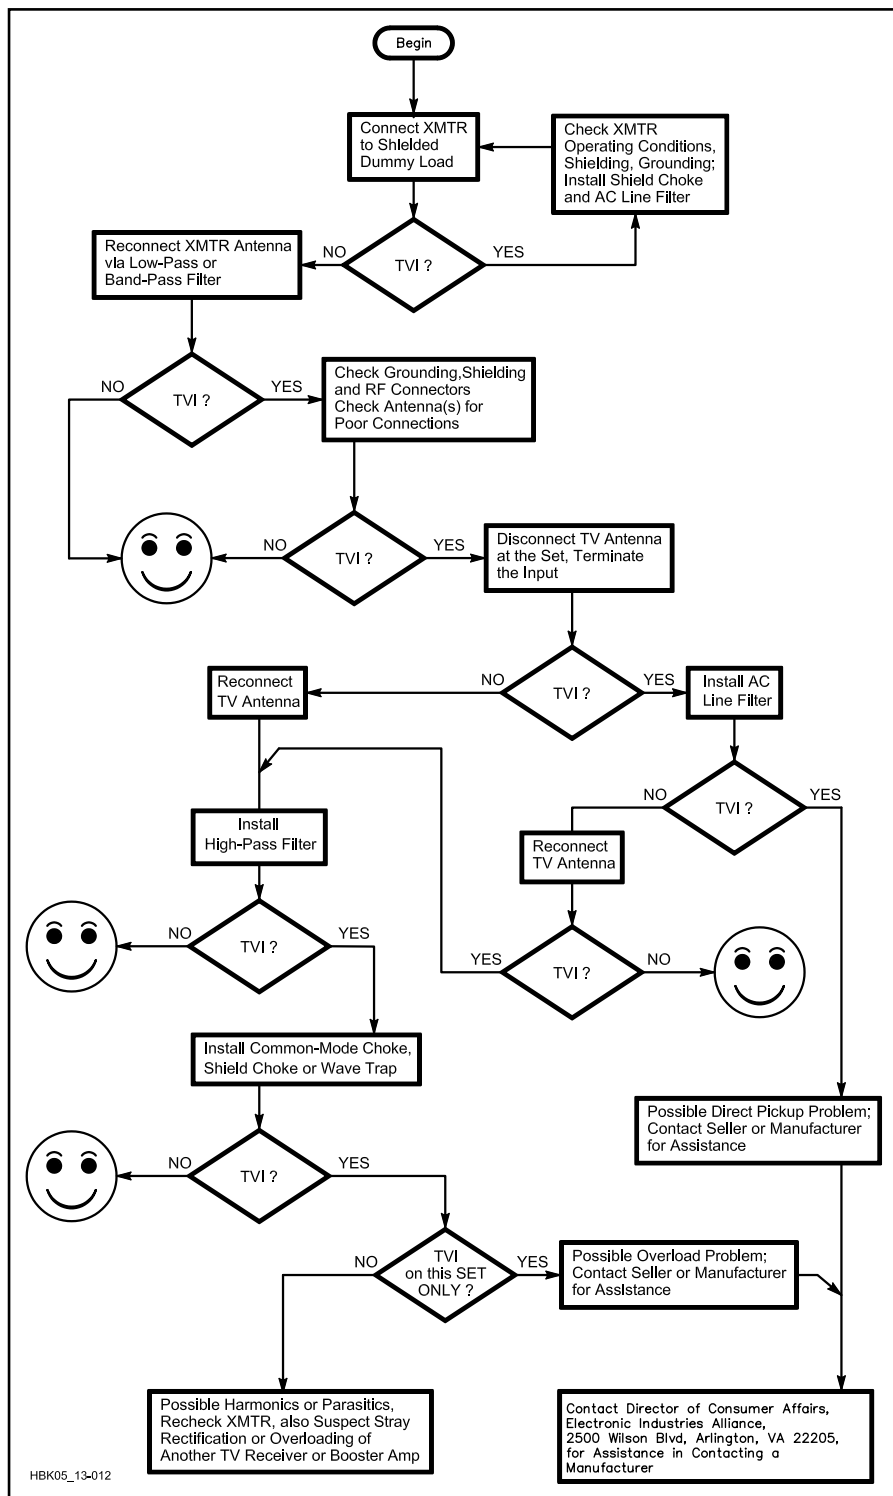

Fig 13.12 — TVI Troubleshooting Flowchart
All of these potential problems are made more severe because the TV set is hooked up to *two* antenna systems: (1) the incoming antenna and its feed line and (2) the ac power lines. These two "long-wire" antennas can couple *a lot* of fundamental or harmonic energy into the TV set! The TVI Troubleshooting Flowchart in Fig 13.12 is a good starting point.